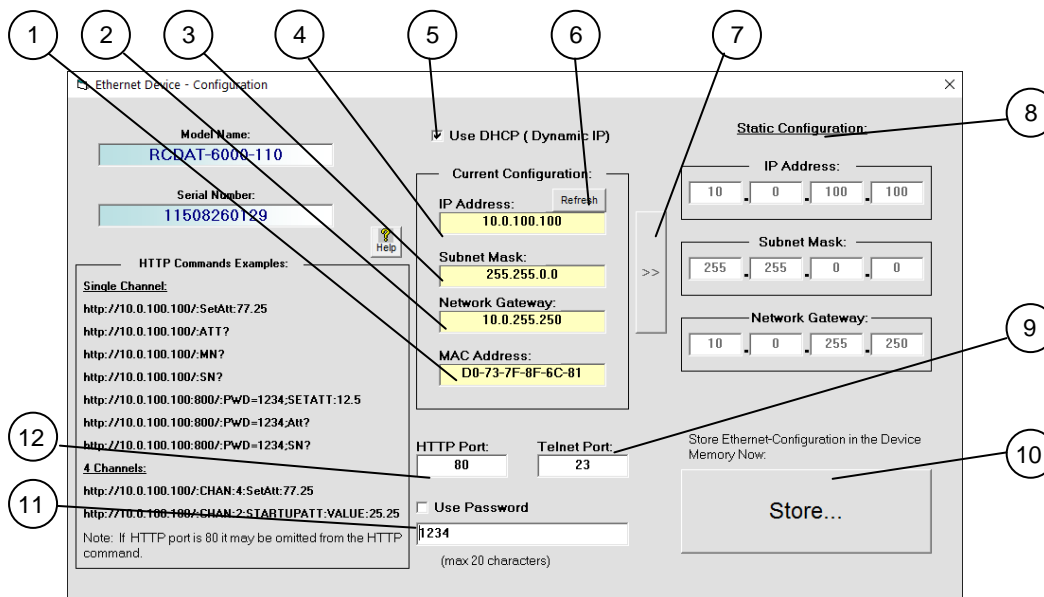

Figure 3.3.2: Ethernet Settings screen (showing factory default state)
3.3.1 **Factory default settings for** RCDAT models are Dynamic IP (DHCP) using Port 80 for http or port 23 for telnet (see **Figure 3.3.2**). To change these settings, click on the Ethernet Settings button In the GUI (see **section 3.1.3**).
3.3.2 **The Ethernet Settings screen will** open showing the current configuration. **Figure 3.3.2** shows the factory default of the programmable attenuators. If these settings are appropriate for your local network then you do not need to access the setup before connecting the attenuator to the network and can connect to the attenuator via Ethernet as described in **section 3.1.5**.